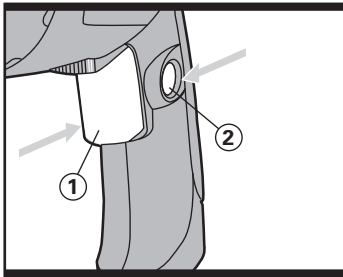

Fig 1.1
Depress on/off switch (1) then lock on button (2) (See Fig 1.1), release on/off switch first and lock-on button second. Your switch is now locked on for continuous use. To switch off your tool just depress and release the on/off switch.